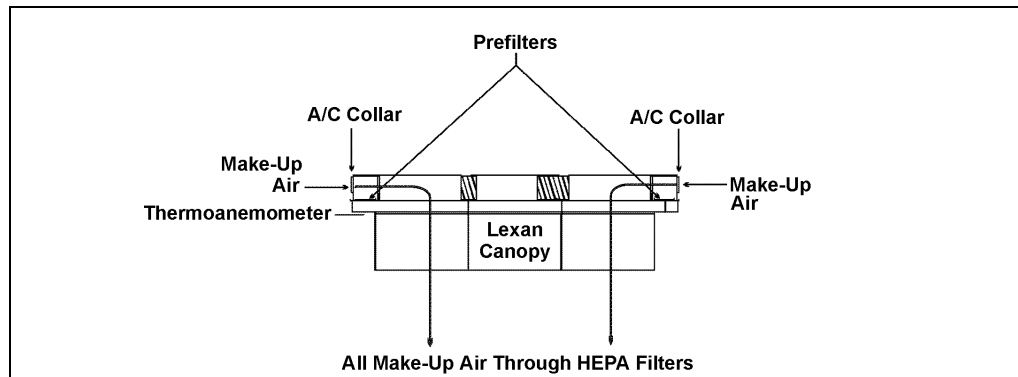

Figure 10: Balanced Airflow in the OR
- H. Rotate the Adjust dial slowly to a higher setback velocity. Using the thermoanemometer, determine the Global Standby/Setback velocity where no air is pushed through the VOR-12 prefilters and back into the surgery room (Figure 10). This is considered the balance point; Make-up air delivered to the VOR-12 is the same amount of HEPA filtered air that the VOR-12 returns to the OR.